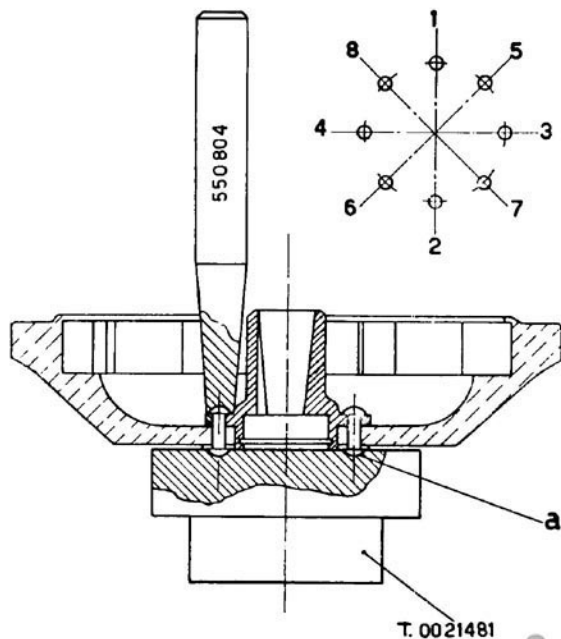

Fig. 75.
3. Remove washer "a" (see Fig. 75), then push the rivets out by means of the pin punch 550805.
outer face of rotor, then the cam and o/size rivets; clench the latter, following the sequence as indicated in Fig. 75, by means of supporting block T. 0021481 and riveting punch 550804.